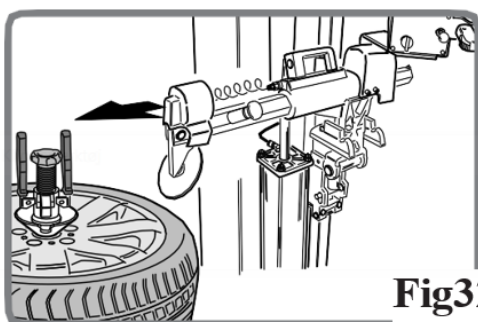

Fig32
- Sving vandret manuelt (Fig32)